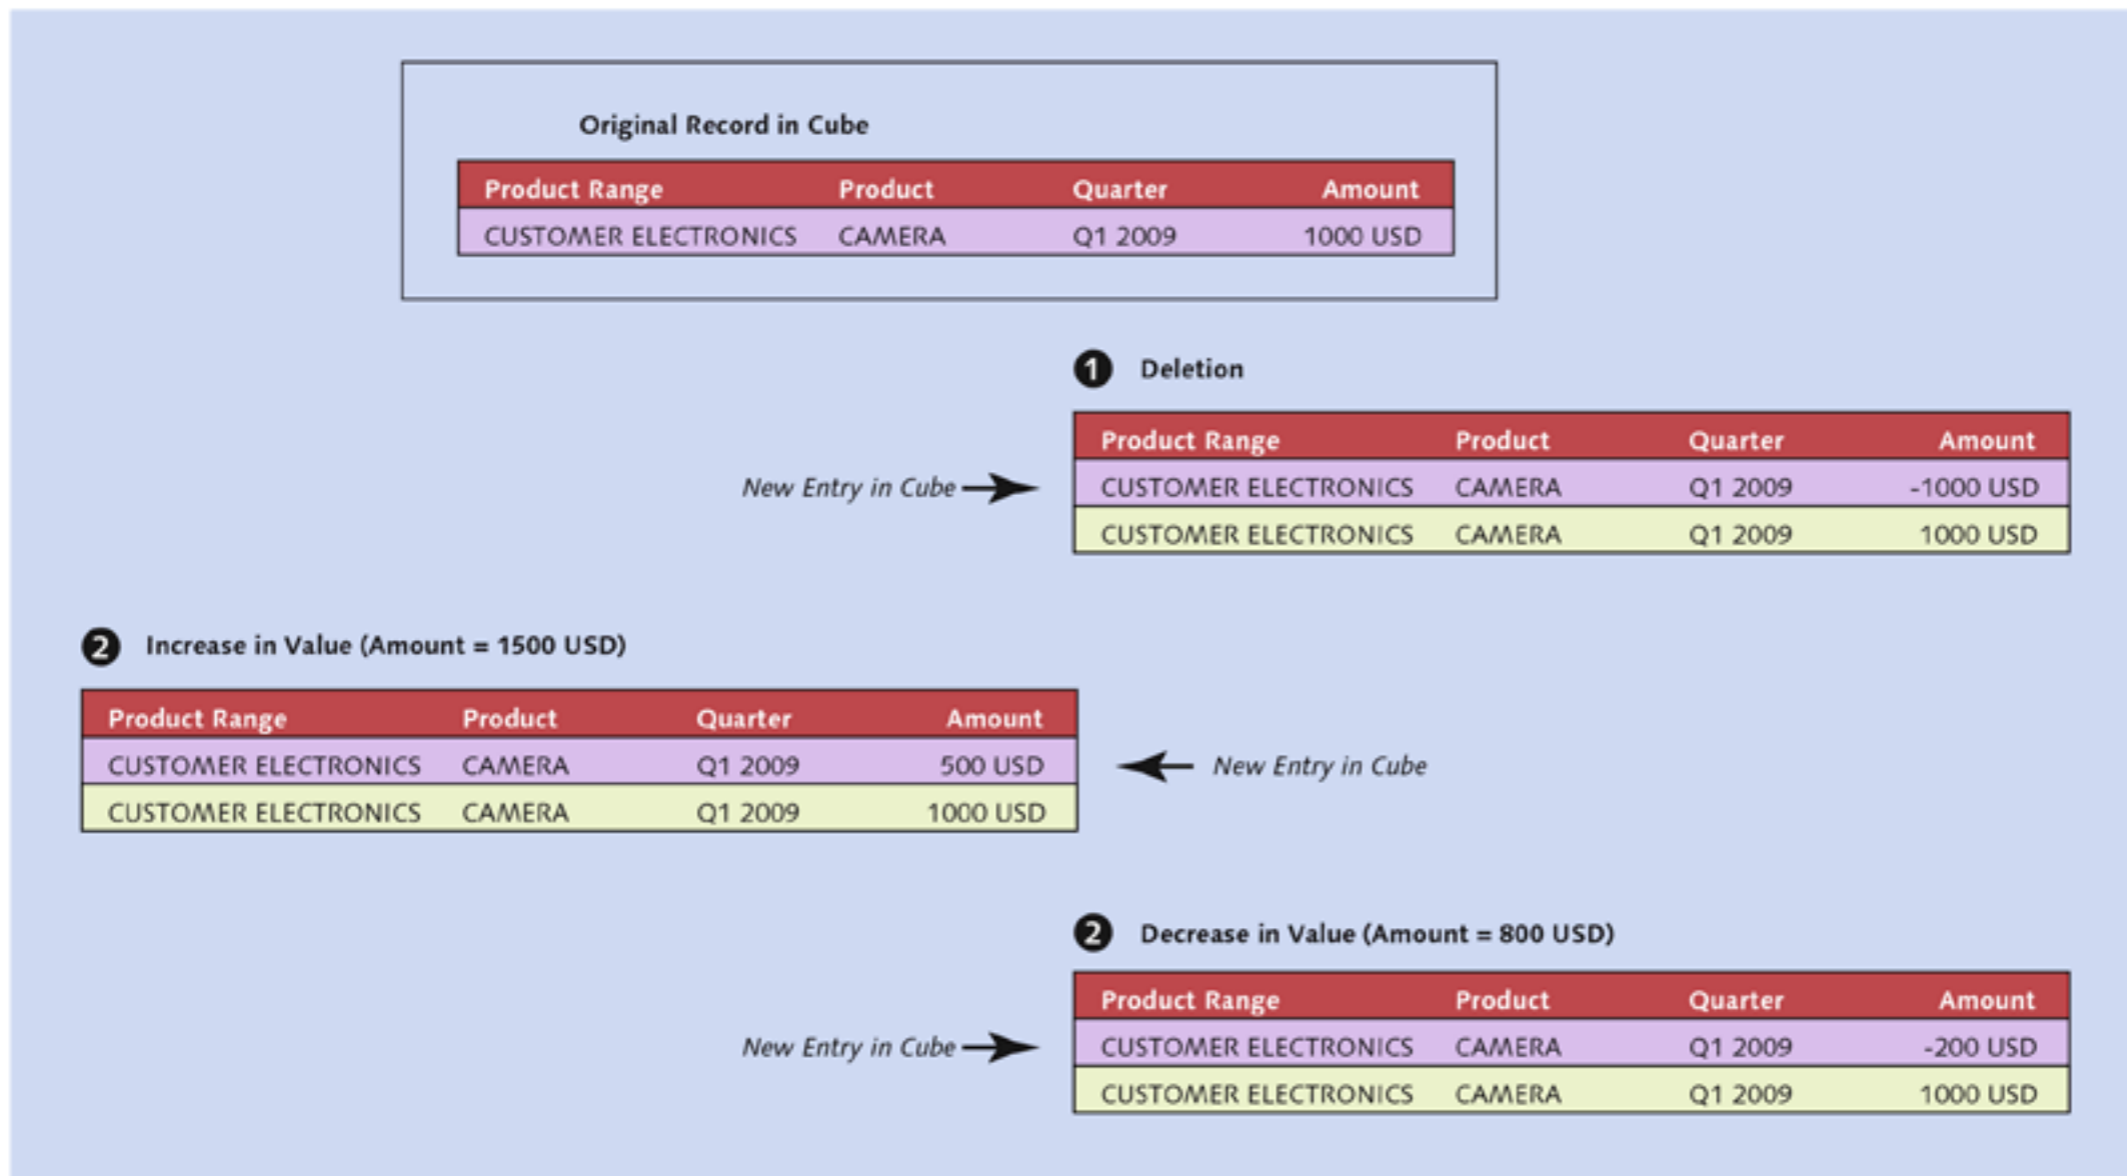

Figure 12.95 Data Changes in Planning Cube
This is explained with an example in Figure 12.95. If a record is deleted from plan data, the deletion is actually stored by creating an additional record with the selected key figure value reversed (❶ of Figure 12.95). If the key figure value for a record is increased (e.g., from \$1000 to \$1500), the change is stored in the cube by creating an additional record for the increased value; that is, \$500 (❷). Similarly, if the key figure value for a record is decreased (e.g., from \$1000 to \$800), the change is stored in the cube by creating an additional record for the decreased value; that is, -\$200 (❸).